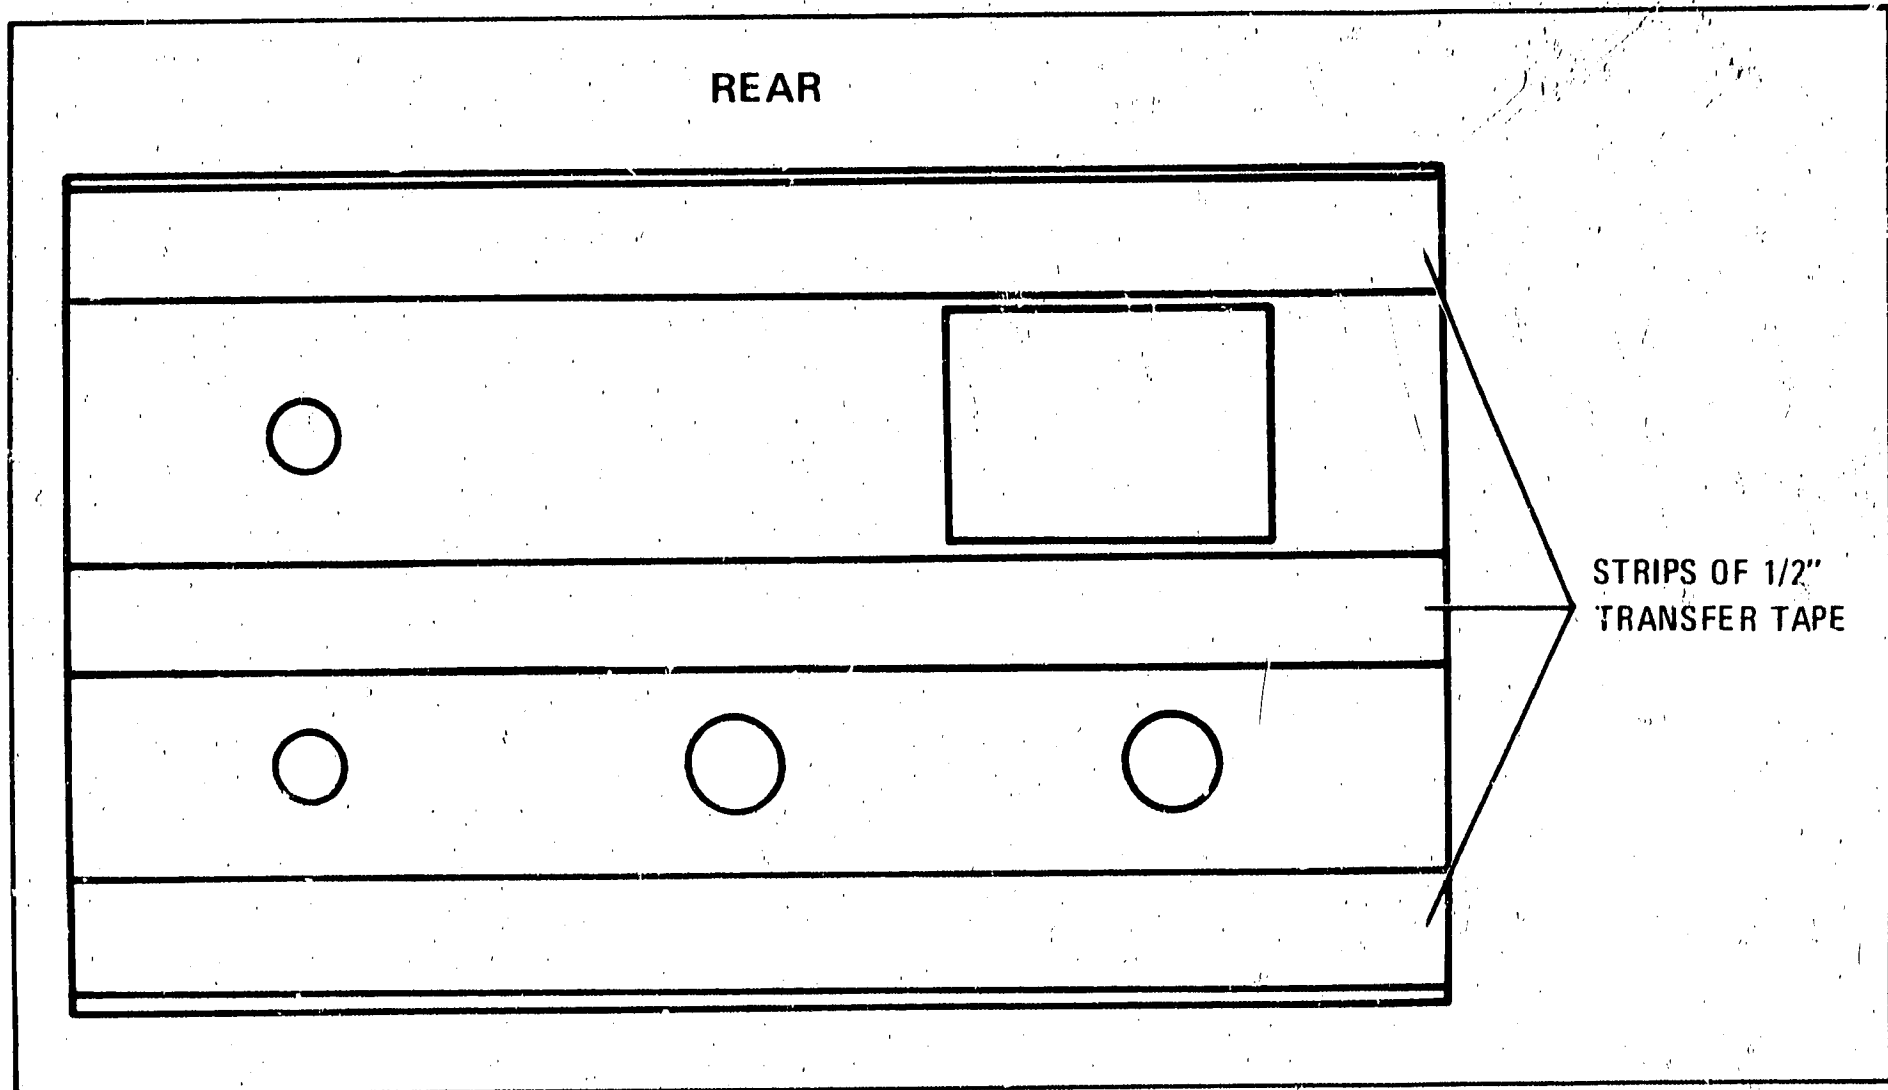

Figure B-8. Position of Transfer Tape on Upper Front Panel, Option 010
a. Place three strips of transfer tape (Figure B-8) to back of front panel. After tape has been placed on panel, apply pressure over entire paper backing (especially on edges).
- a. Place three strips of transfer tape (Figure B-8) to back of front panel. After tape has been placed on panel, apply pressure over entire paper backing (especially on edges).